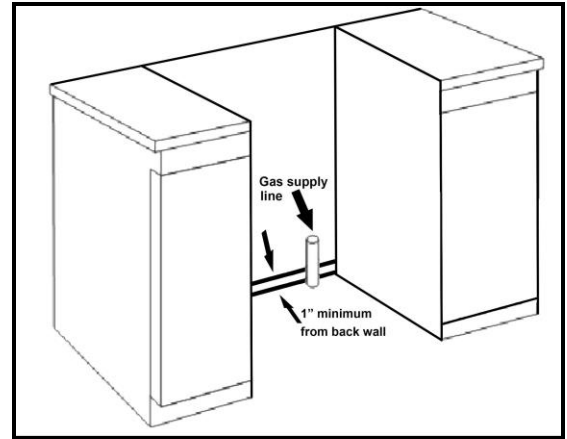

Figure 2
- Gas supply should be located near the opening for this appliance and be a minimum of 1" from the back wall. (See Figure 2)